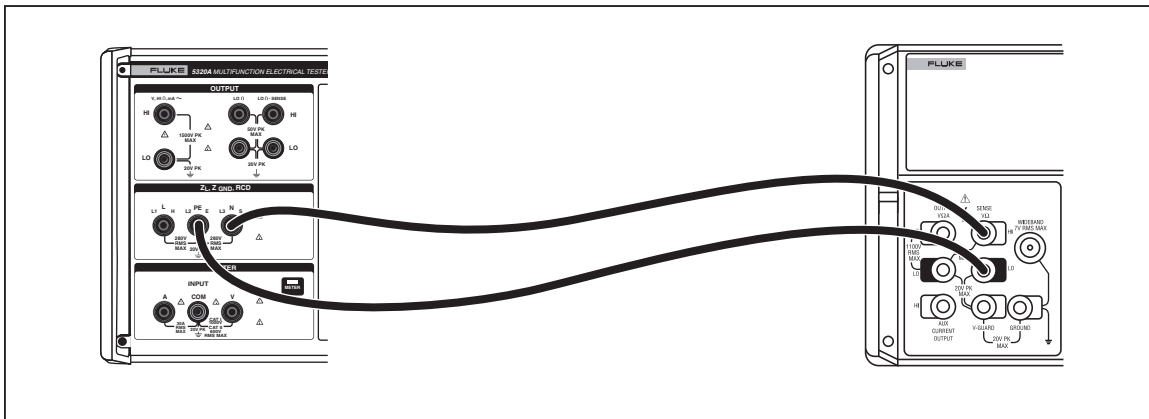

Figure 6-8. RCD Trip Current Calibration Connections
1. Connect the Calibrator to the multifunction calibrator as shown in Figure 6-8.